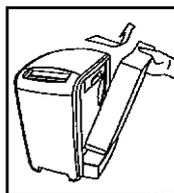
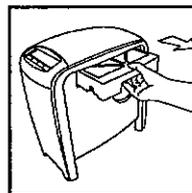

Fig. 6
Fig. 7
- Remove the tank (Fig. 6) and pull out the filter assembly (Fig. 7).